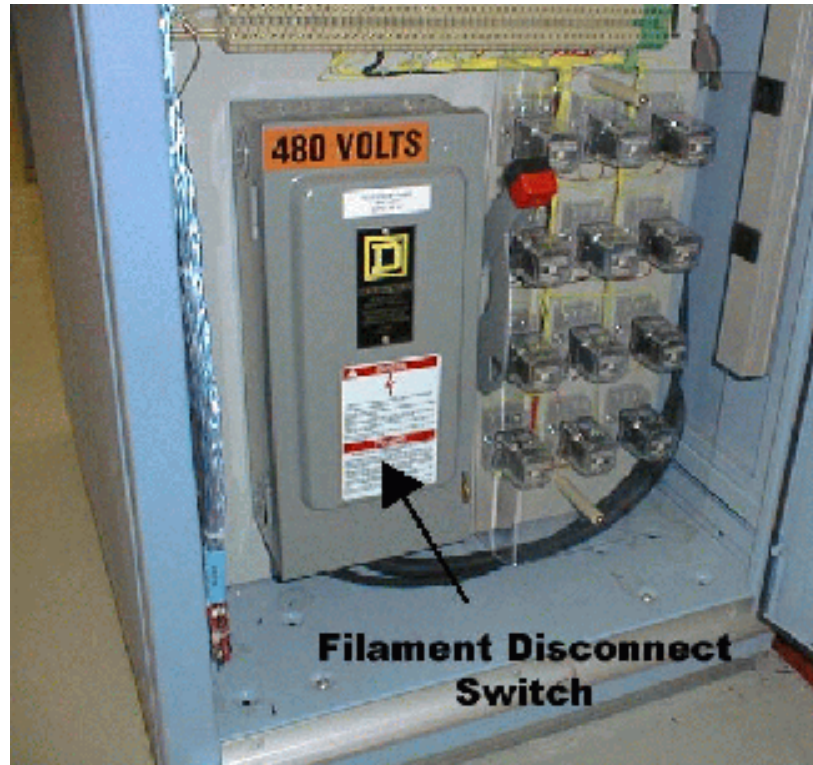

Figure 3
5.4.2.2 Turn off and Lockout/Tagout the Filament Disconnect Switch-located in the Power Supply Rack. Verify LOTO by opening filament breaker box and using “wiggy” or equivalent meter, verifying meter by testing AC input test points at top of switch and absence of 480V AC on fuses. Power Supply Rack stands next to the particular Anode Power Supply Cabinet. Switch is located in the rear of the cabinet (see Fig. 3). Access to the switch requires opening the back door of the Power Supply Rack.
2. Figure 3 - Filament Disconnect Switch